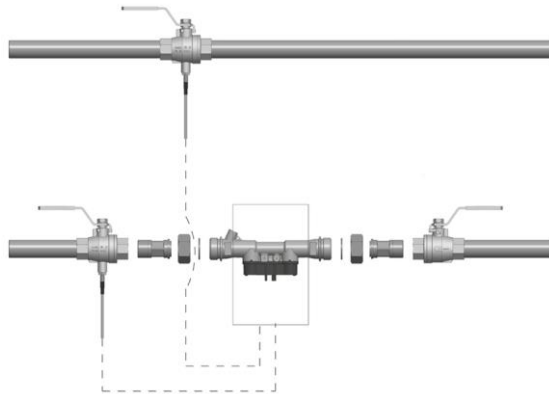

Fig. 1: Integrating with ball valves (recommended up to and including DN25)
- Screws on lock to the device cover (Fig. 1, No. 4): At least 1 Nm